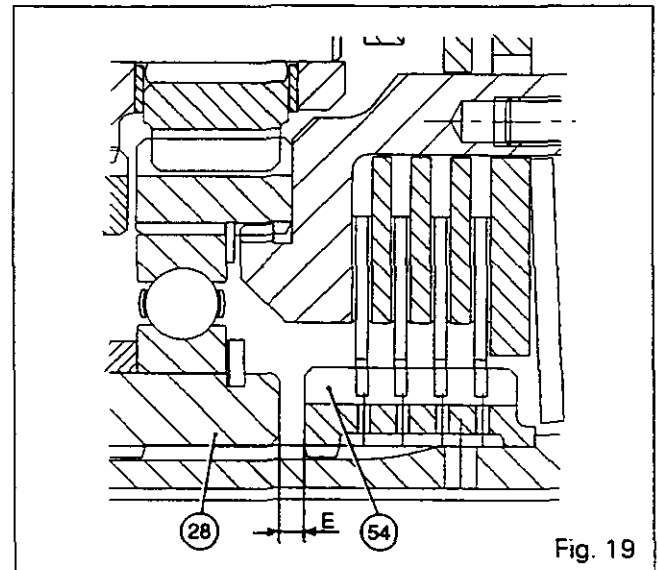

Fig. 19
- 63. Fit the secondary sun gear (61) and its retaining ring (49) on the ball bearing (57).
- 65. Determine the clearance **E** between the primary planetary carrier (28) and the hub (54) (Fig. 19) using the formula : $E = D - A$